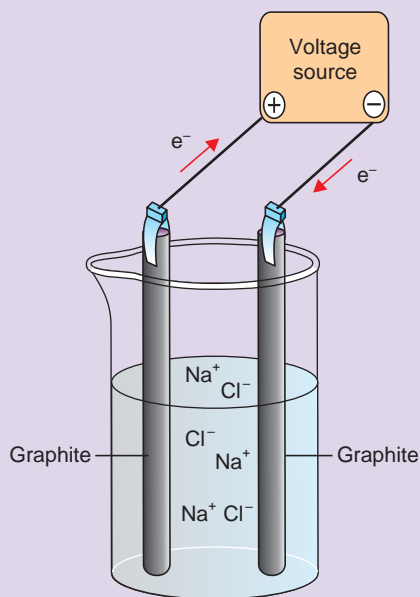

Figure 4.3 Electrolytic cell containing molten sodium chloride.
2. Observe **Figure 4.3** and answer the following questions.